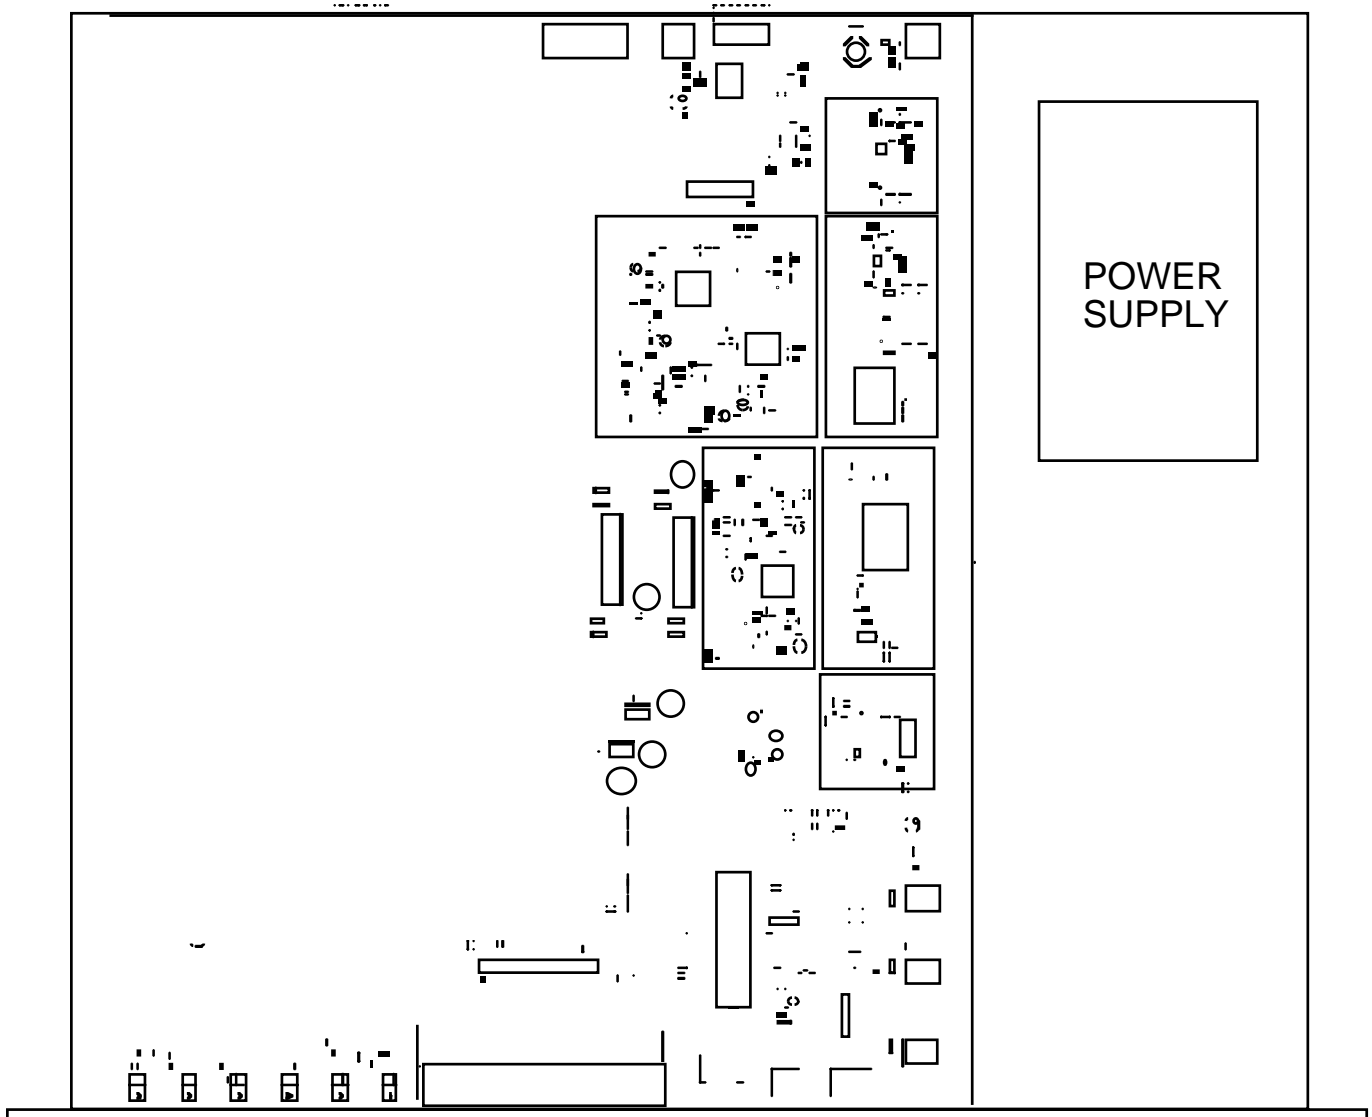

FIGURE 2.1 2016-02 (CE) Mechanical Assembly
The 2016-02 (CE) consists of one RF/Controller PCB housed in a 1 RU (1 3/4 inch high) by 16 inch deep chassis. A switching, ± 12 , +24, +5 VDC power supply provides power for the assemblies. The 2016-02 (CE) can be secured to a rack using the 4 holes on the front panel. Figure 2.1 shows how the 2016-02 (CE) is assembled.
7. Option -L only - To insert LNB +24 VDC on the RF center pin install 0.5A fast blo fuse in F1 and check that DS8 lights yellow (Figure 2.1)